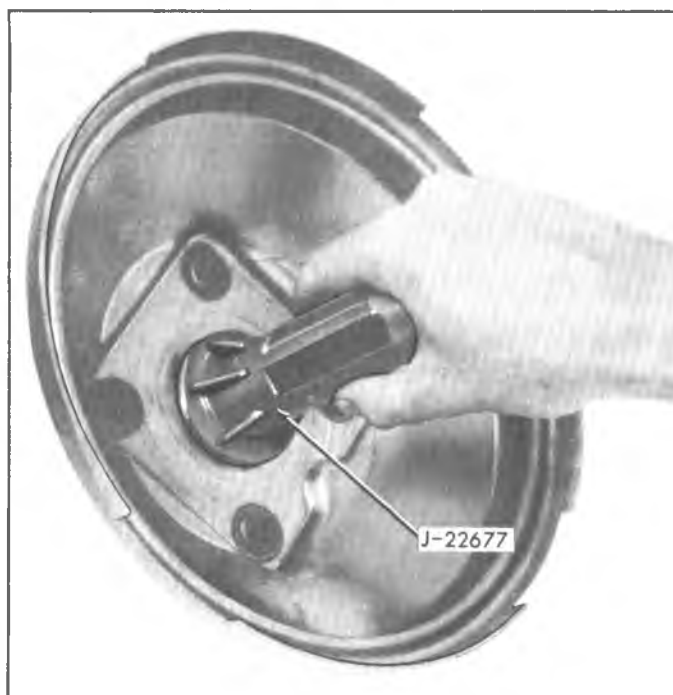

Fig. 4C--Installing Rear Housing Seal
1. Place rear housing on a block of wood, stud side down, and position housing seal in center hole. Use Tool J-22677 (fig. 4C) to seat seal in recess of rear housing. Tool bottoms against housing when seal is in place.